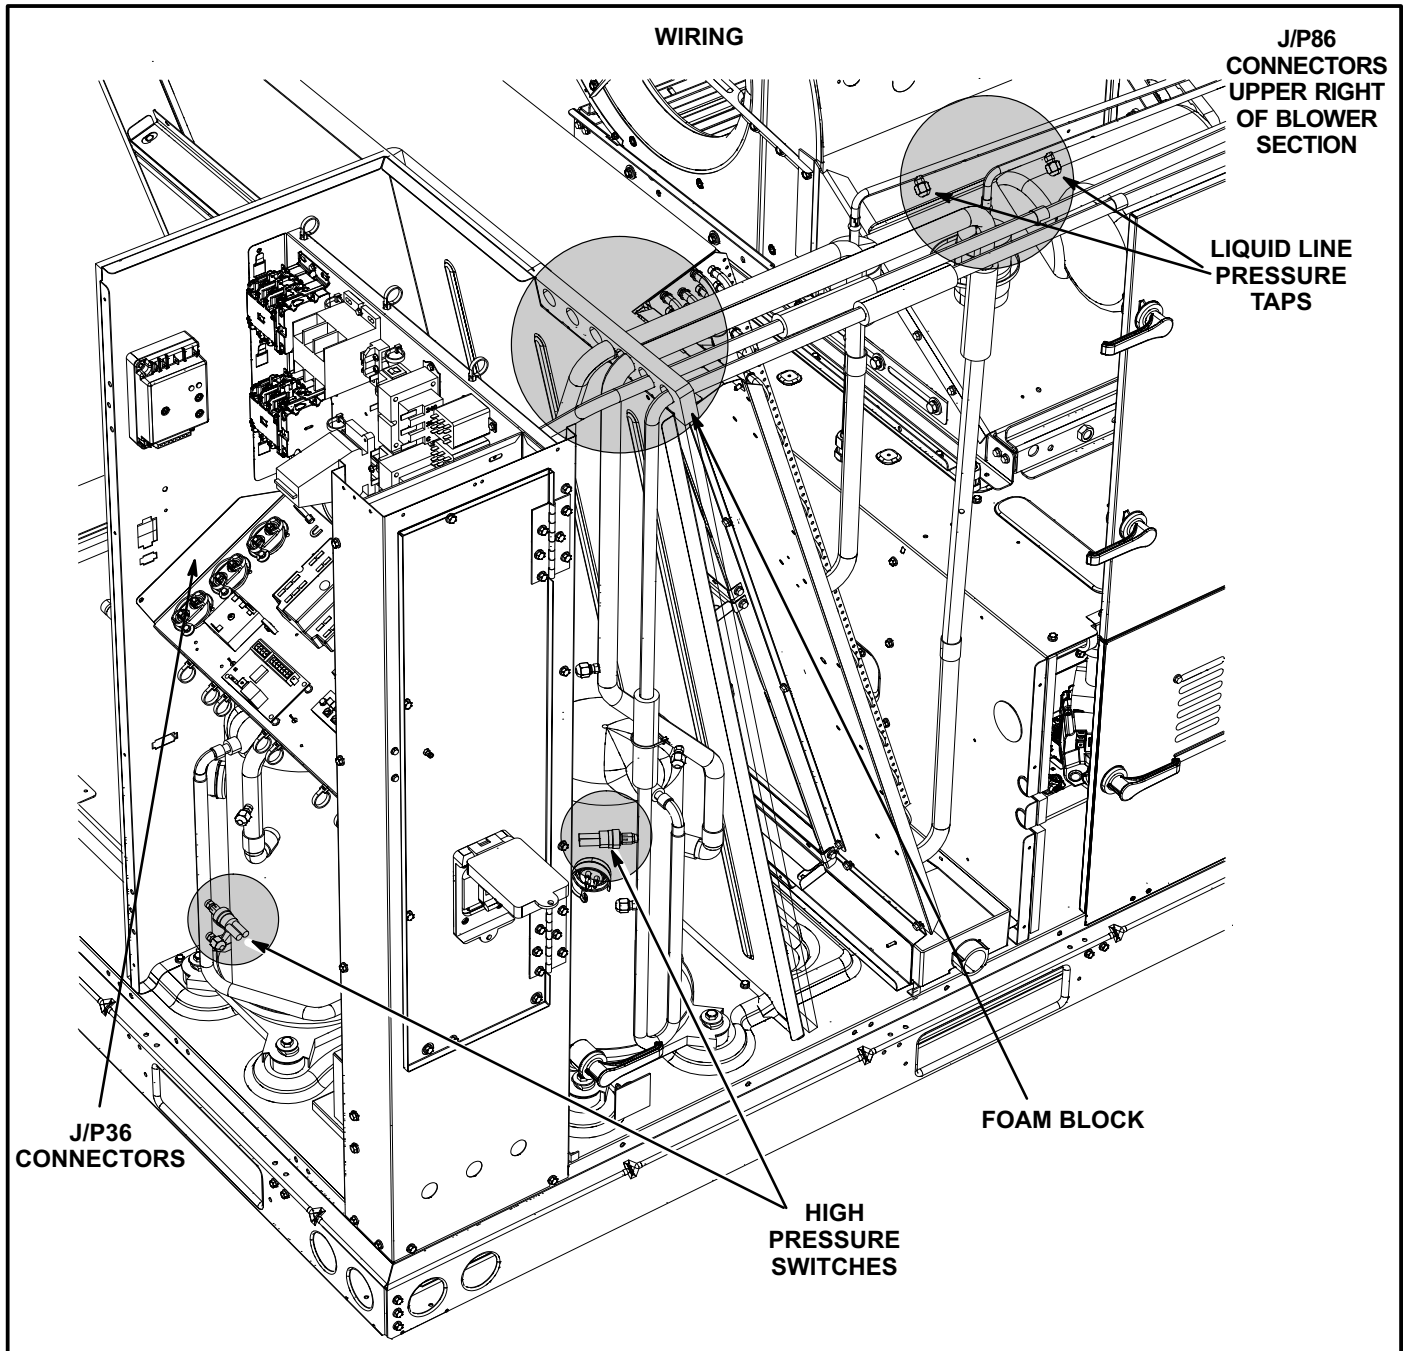

FIGURE 2
- 4- If present, disconnect and discard low pressure switches from each liquid line. See figure 2.
- 1- Lift the unit top and prop open near the foam block. See figure 2.
Disconnect J/P36 connectors in the lower left area of the control box. See figure 2.
Disconnect J/P86 connectors located in the upper right of the blower section. See figure 2.